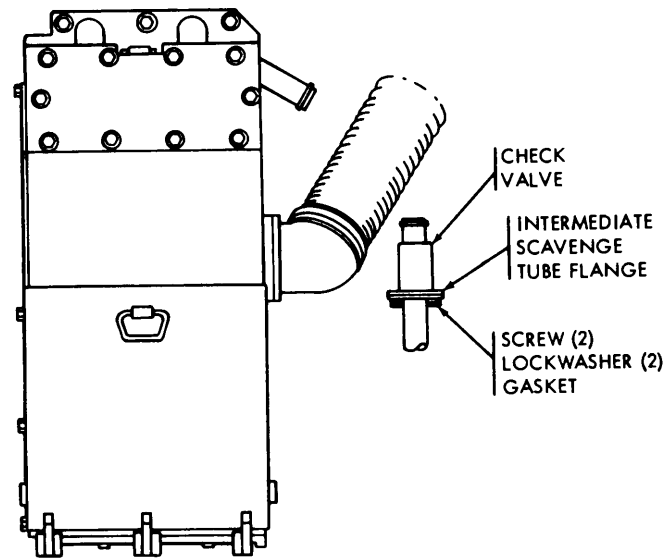

Figure 6-15. Check valve replacement.
- (2) *Installation.*
- (a) Apply silicone compound (item 5, appendix C) inside two hoses.
- b. Check Valve Replacement (*Fig. 6-15*). **NOTE**